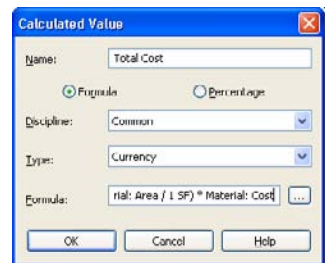

Figure 12.17
2. Click the Calculated Value button to create the formula. Enter **Total Cost** as the name (Figure 12.17).